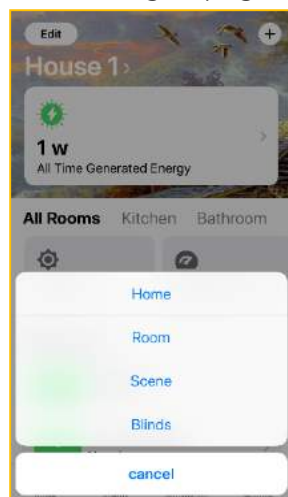

Figure 17
10.5.2. Select **Home** from the menu options (Fig. 17).